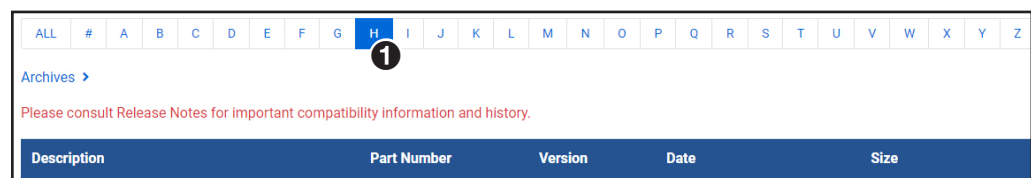

Figure 9. Firmware Download Center
2. In the Download Center screen, navigate to the HAI 100 4K Plus (see figure 9, **1**).